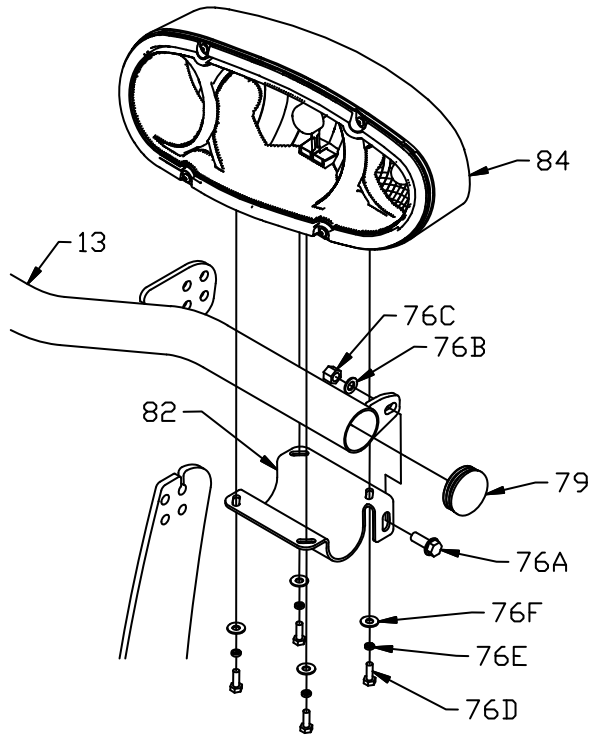

Figure 10. Headlight Mounting Assembly G10115
28. Check that End Cap (79) is properly inserted into Light Bar (13).
29. Place Driver Side Headlight Bracket (82) below Light Bar (13) and secure with one 3/8"-16 X 1" Hex Head Shoulder Bolt (76A), one 3/8" Flat Washer (76B), and one 3/8" Nylon Lock Nut (76C).
30. Fasten Driver Side Headlight (84) to Driver Side Headlight Bracket (82) using four 1/4"-20 X 3/4" Hex Head Bolts (76D), four 1/4" Split Lock Washers (76E), and four 1/4" Flat Washers (76F). Leave fasteners finger tight until Headlight orientation has been completed. See Figure 10 for proper fastener placement.
31. Repeat Steps 28 through 30 for Passenger Side Headlight Bracket (83) and Passenger Side Headlight (85).